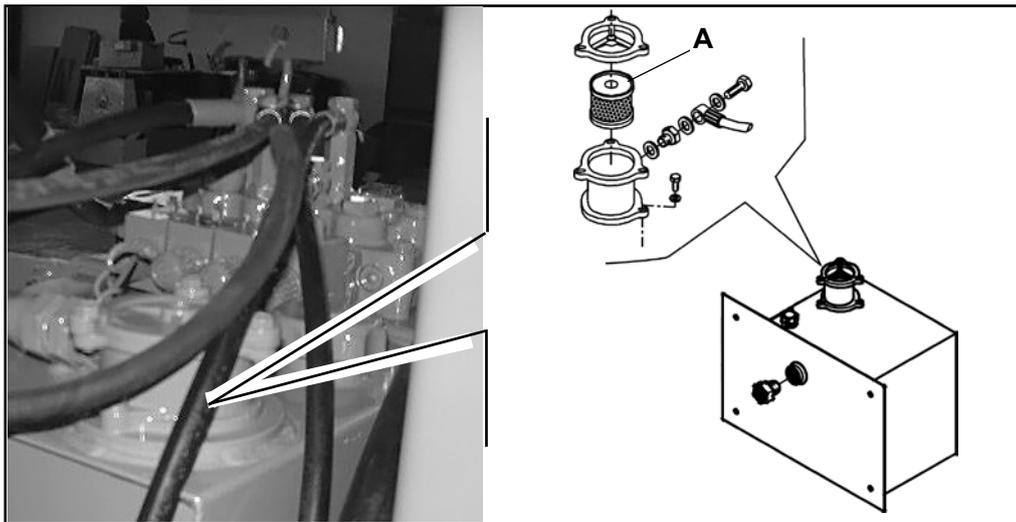

FIG. 8
- 2) After the first 50 working hours wash out the filter cartridge (**A Fig.8 ORDER CODE: 99009401**) which is situated on the hydraulic oil tank, with diesel and then use compressed air.